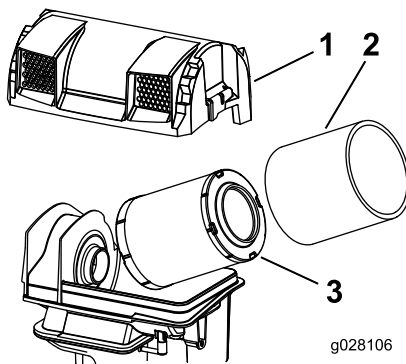

Figure 34
3. Remove the foam and paper elements (Figure 34).
4. Remove the foam element from the paper element (Figure 34).
2. Install the elements onto the air-cleaner base (Figure 34).